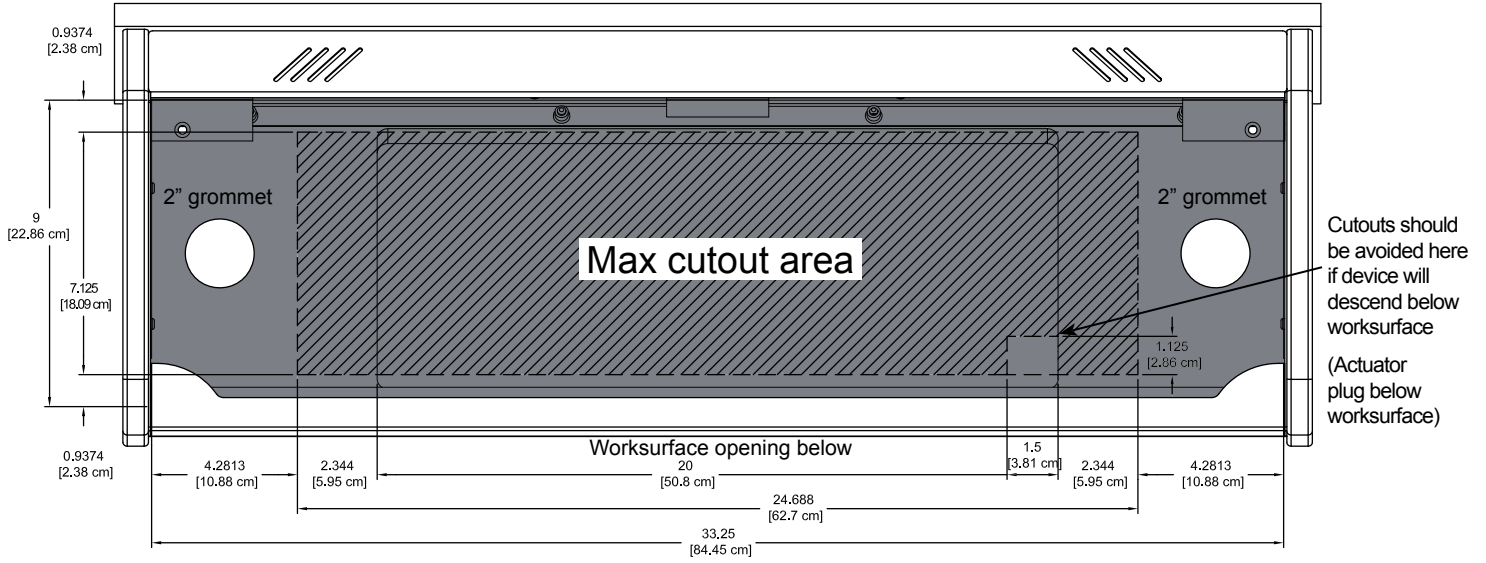

Figure 5B
1. Identify all location(s) and sizes for controller(s) or electronics while making sure all devices fit within the maximum cutout space available in the overbridge panel. See **Figure 5B, 5C.**